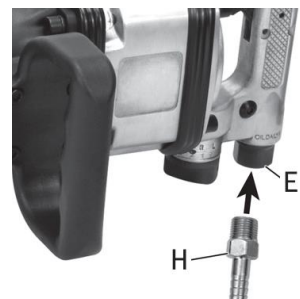

Fig. 3
3. Screw the air plug (H) into the tool's air inlet and tighten with a wrench (not included) until snug (Fig. 3).